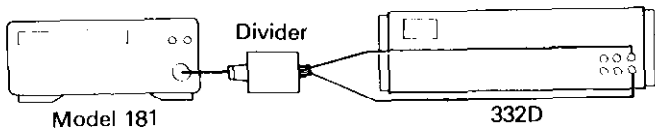

Figure 3-2A 2mV and 20mV Performance Check
- C. Connect the DC calibrator as shown in Figure 3-2A. For the 2mV and 20mV ranges. Allow a few minutes for thermal FMF's to settle out. Use Figure 3-3B for the 200mV range.